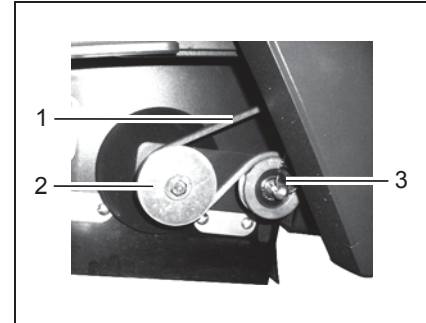

Fig. 45
3. Remove the belt (Fig. 45/1) from the pulleys (Fig. 45/2+3).
- The belt tension is set by means of a spring mounted tension pulley (Fig. 45/3).